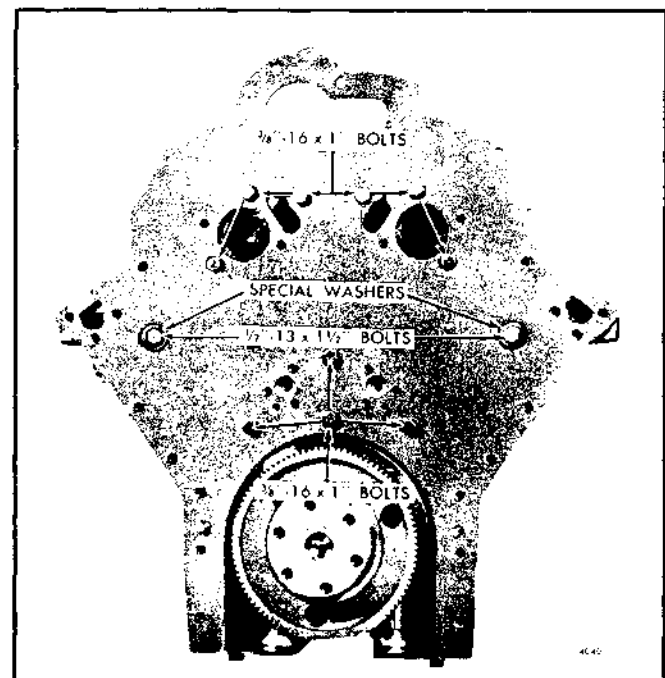

Fig. 2 - Cylinder Block Rear End Plate Mounting (V-Type Engine)
4. On a V-type engine, refer to Fig. 2 for the location and install the 3/8 "-16 x 1 " bolts with lock washers. Also install the two special washers and two 1/2 "-13 x 1-1/2 " bolts as shown when the fuel pump is driven off the camshaft, or one special washer and bolt when the fuel pump is driven by the accessory gear. Tighten the 3/8 "-16 bolts to 30-35 lb-ft torque and the 1/2 "-13 bolts to 71-75 lb-ft torque.